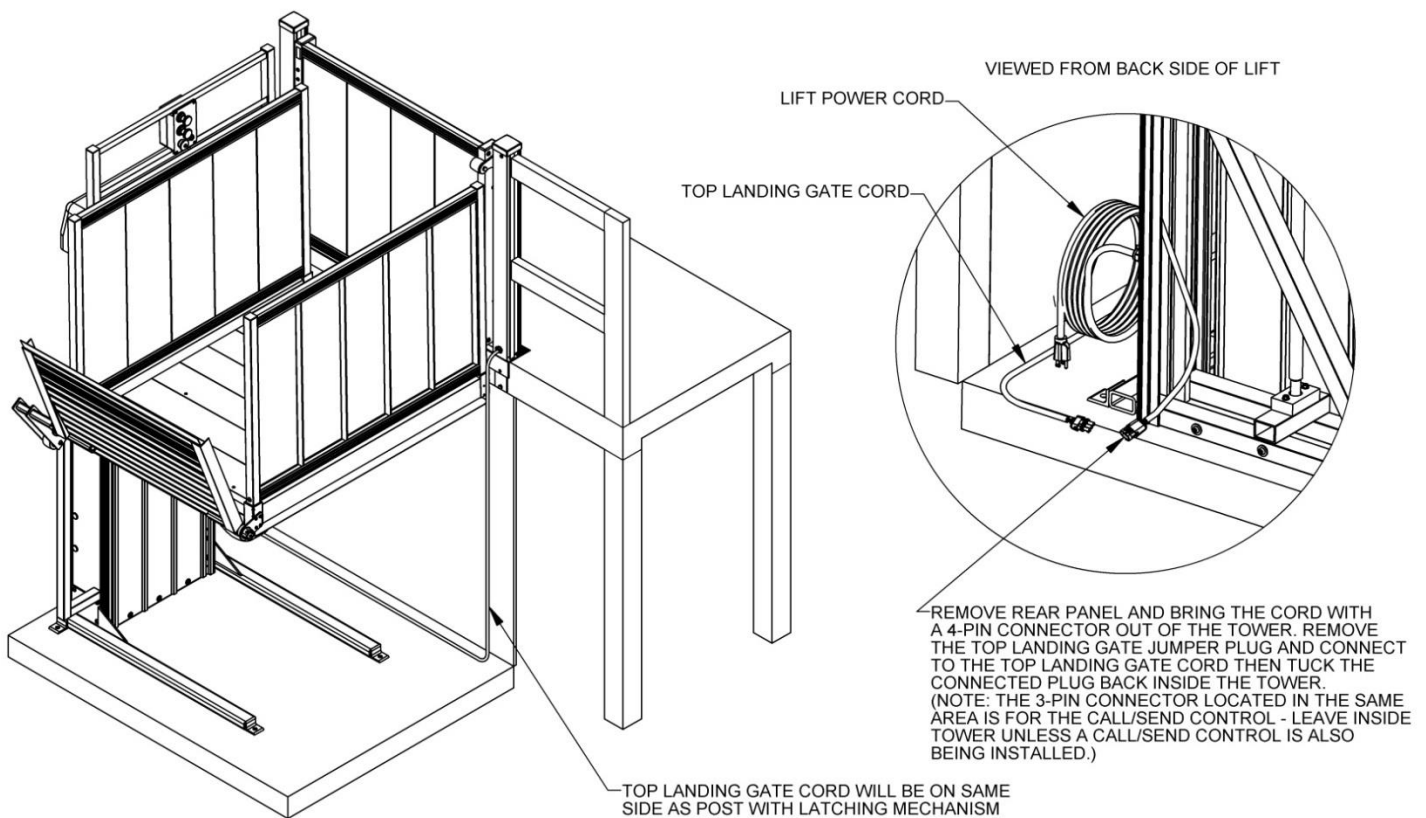

FIG. 6.4
8. Before connecting the Top Landing Gate cord, the VPL Platform **must** be set at the upper landing level. Proceed with Steps 33 through 51 in Section 4 if not already complete. Connect the Top Landing Gate cord to VPL by first removing rear cover. There will be a cord with a 4-pin connector inside the tower located in the area where the power cord exits the tower. Bring this cord out of the tower and remove the Top Landing Gate jumper plug from the connector. Connect the Top Landing Gate cord and tuck the connected plug back inside the tower (FIG. 6.4).